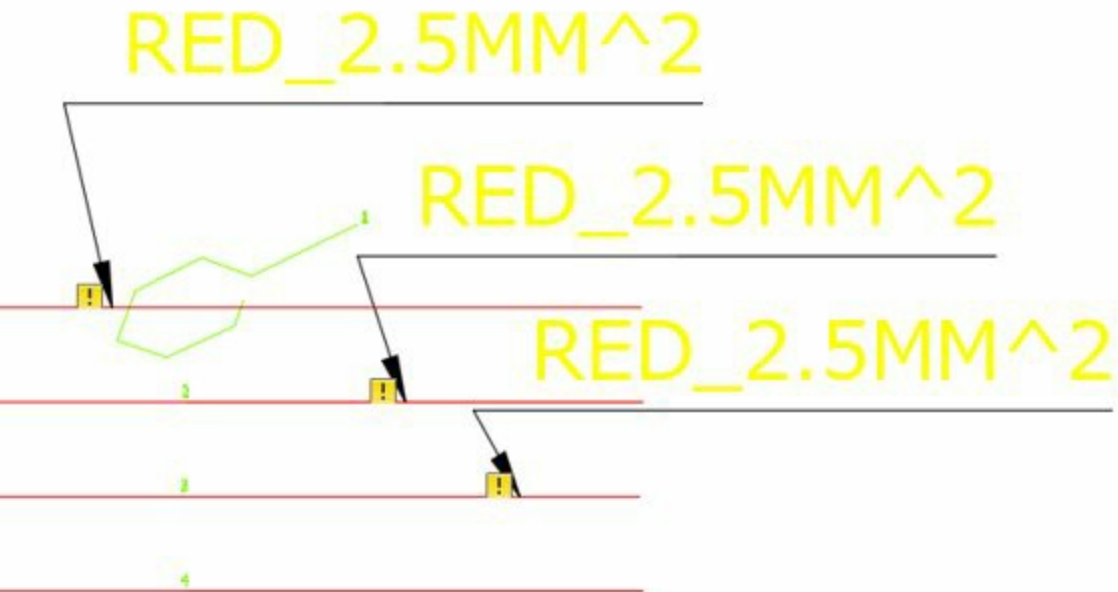

Figure-37. Wire labels
- After selecting the desired button, click on the wire and follow the instructions given by system. Press ENTER to create the labels. The labels will be attached to the wires; refer to Figure-37.